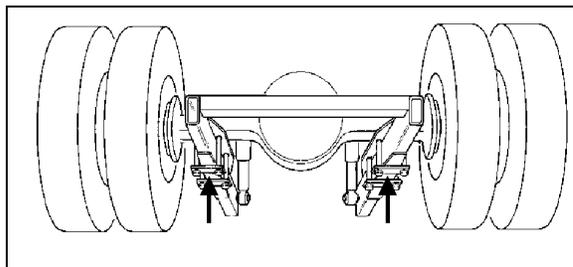

FIGURE 6: JACKING POINTS ON DRIVE AXLE
- Install jacks under the axle jacking points to support the axle weight (refer to Figure 6).